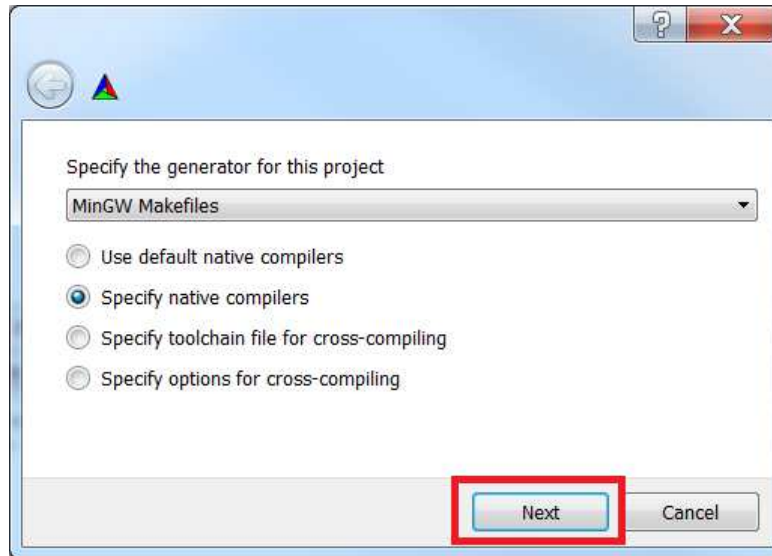
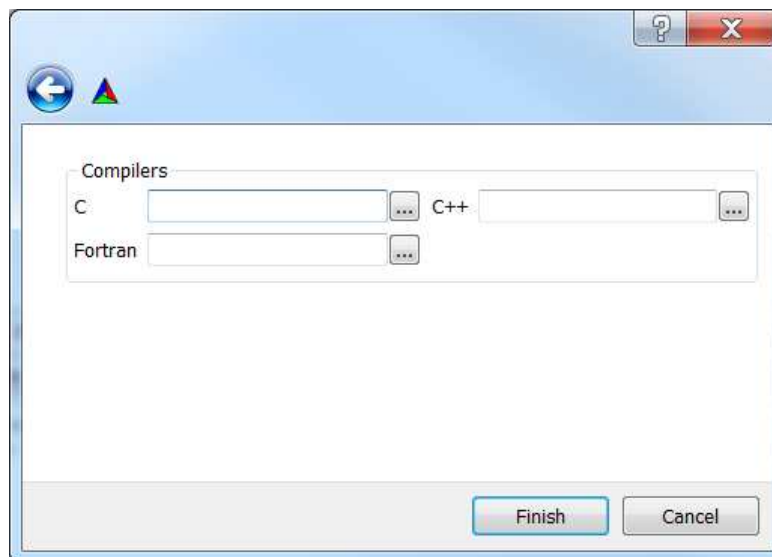
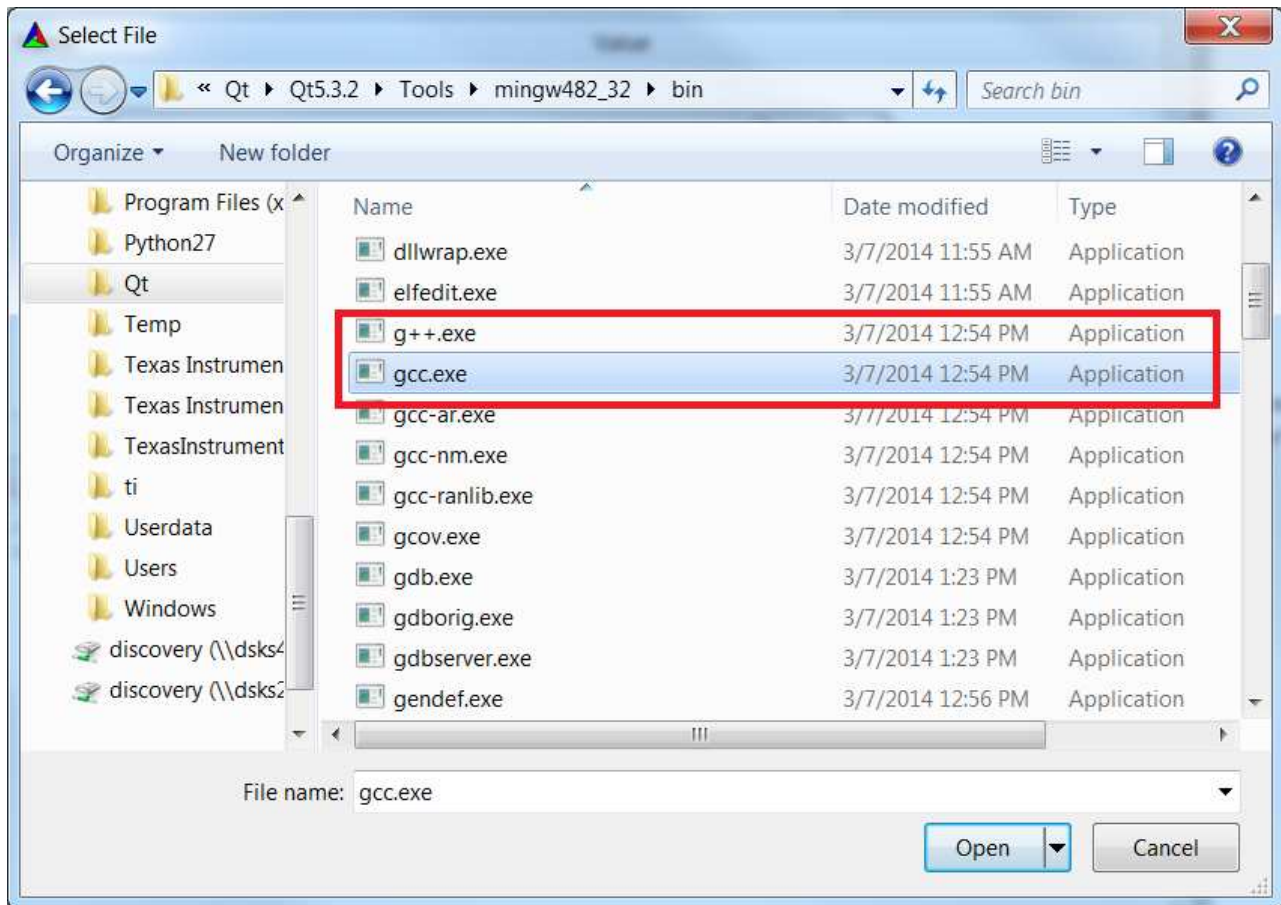
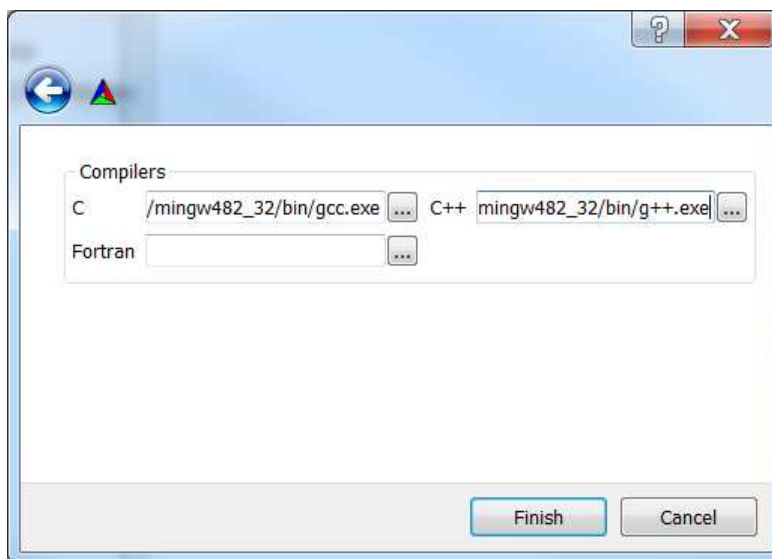

Figure 29. CMake Specify Compilers
Figure 30. CMake Specify Compiler Menu
Figure 31. Browse for Compilers
Figure 32. CMake Compilers Selected
9. If an error occurs immediately, check the PATH variable and make sure that it includes the MinGW path from Section 4. Also make sure the computer was restarted after that change. If the error persists, use the “Specify native compilers” option as shown in Figure 29. Click “Next” to continue. Figure 30 shows the compiler selection menu. Browse for both the C and C++ compilers in the Qt MinGW binary folder. For the C compiler, select gcc.exe and for the C++ compiler select the g++.exe as shown in Figure 31. Once this is complete, the compilers window should look like Figure 32. CMake will try configuring again.